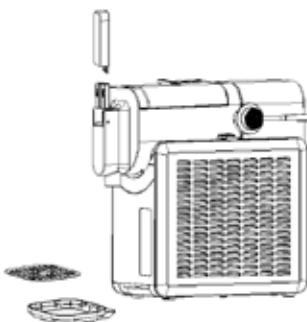

Fig. 1
7. Attach the tap as shown in Figure 1.